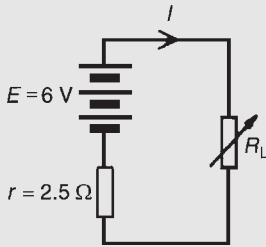

Figure 13.82
**Problem 22.** The circuit diagram of Fig. 13.82 shows dry cells of source e.m.f.  $6 \text{ V}$ , and internal resistance  $2.5 \Omega$ . If the load resistance  $R_L$  is varied from  $0$  to  $5 \Omega$  in  $0.5 \Omega$  steps, calculate the power dissipated by the load in each case. Plot a graph of